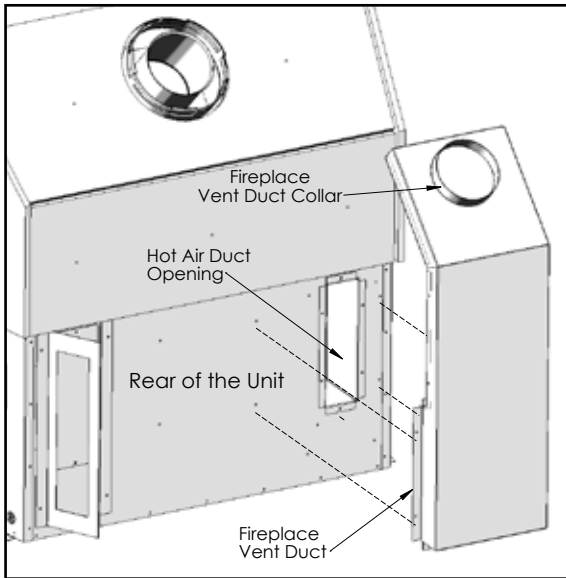

Figure 4: Install the vent duct kit.
- 3. Cover the hot air duct opening with the Fireplace Vent Duct (refer to Figure 4). Push the vent duct kit against the back of the fireplace and secure it in place with five (5) ¼" HWH self drilling screws.